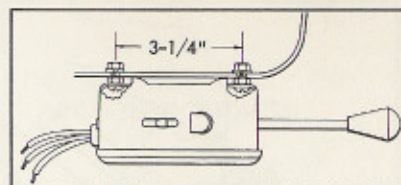

Figure 20
controller may be mounted on the under side of the instrument panel in a convenient location. To mount in this manner it is necessary to drill two (2) $3/16$ " holes $3-1/4$ " apart, and use two (2) $3/16$ " screws and lock nuts to complete the mounting. See Figure 20.